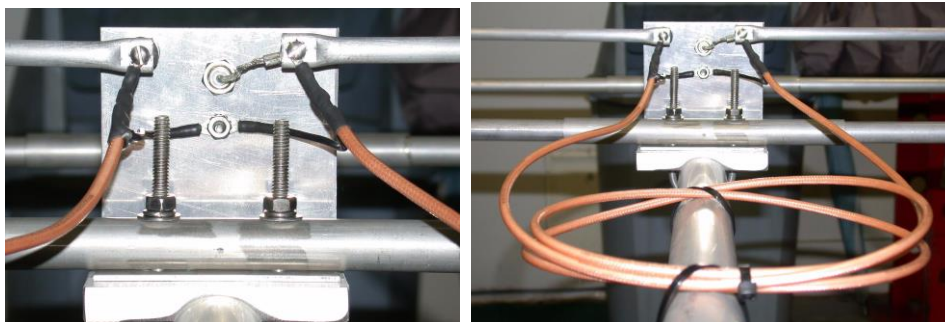

Figure 3
- Attach the other T-arm in a similar fashion, but without the wire coming from the connector, and locate the shorting strap 37 1/8" from the center of the N connector. Connect both ground wires from both ends of the balun to the grounding screw just below the connector. Place a lock washer on the stud first, then both lugs, another lock washer and then the nut and finger-tighten. Refer to Figure 3 for details.
- Securely attach the balun to the boom with the supplied cable ties as pictured in Figure 3.